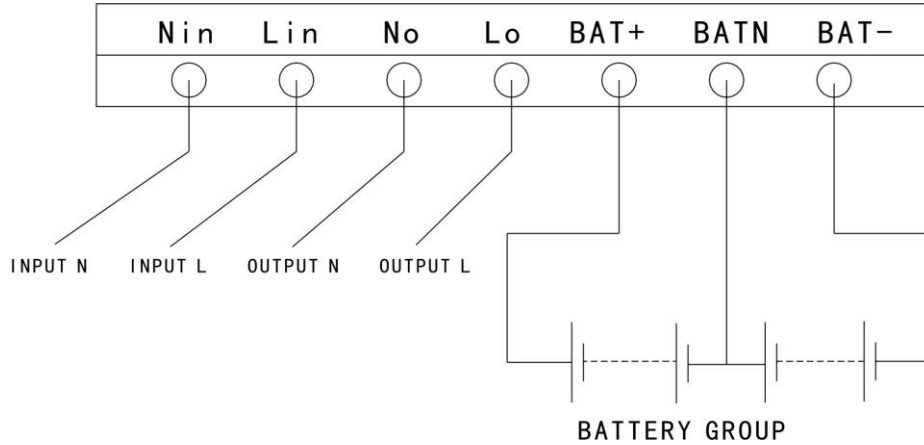

Fig.3-3 I/O terminals connection
- 2) Remove the cover of the terminals, refer to chapter 2.1, follow fig. 3-3 to connect the cables